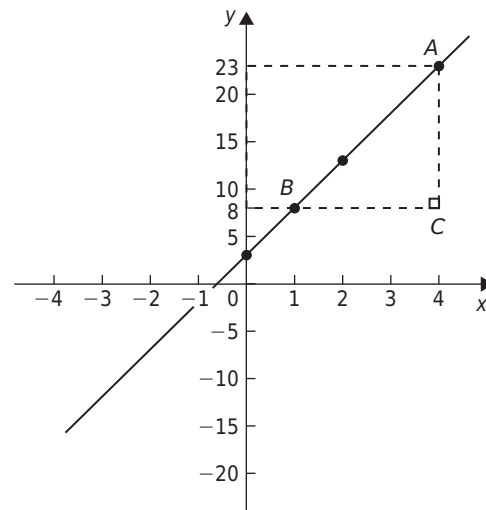

Figure 2.6
- (a) A right angled triangle ABC is constructed on the graph as shown in Figure 2.6.